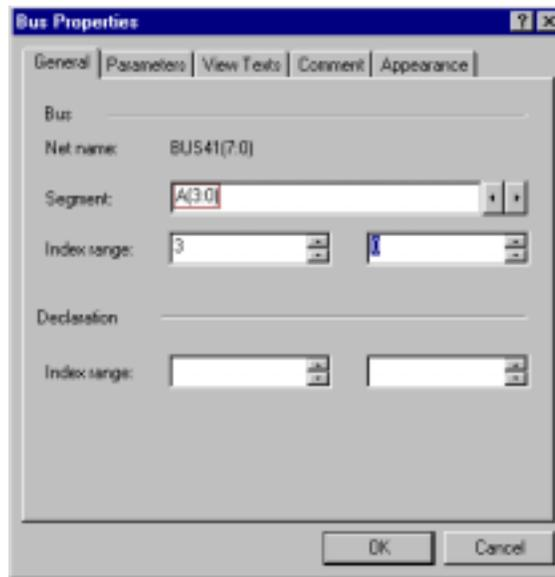

Figure 9
2. Type the name of the bus in the "Segment" field, and select the index range. By default, buses are 8-bits wide when drawn (see Figure 9 on the next page).